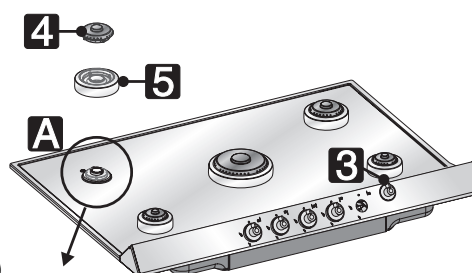

Fig 2)
- remove all the knobs (3, Fig.2) by pulling them outward;
- lift all the burner components off the hob (4-5, Fig. 2);